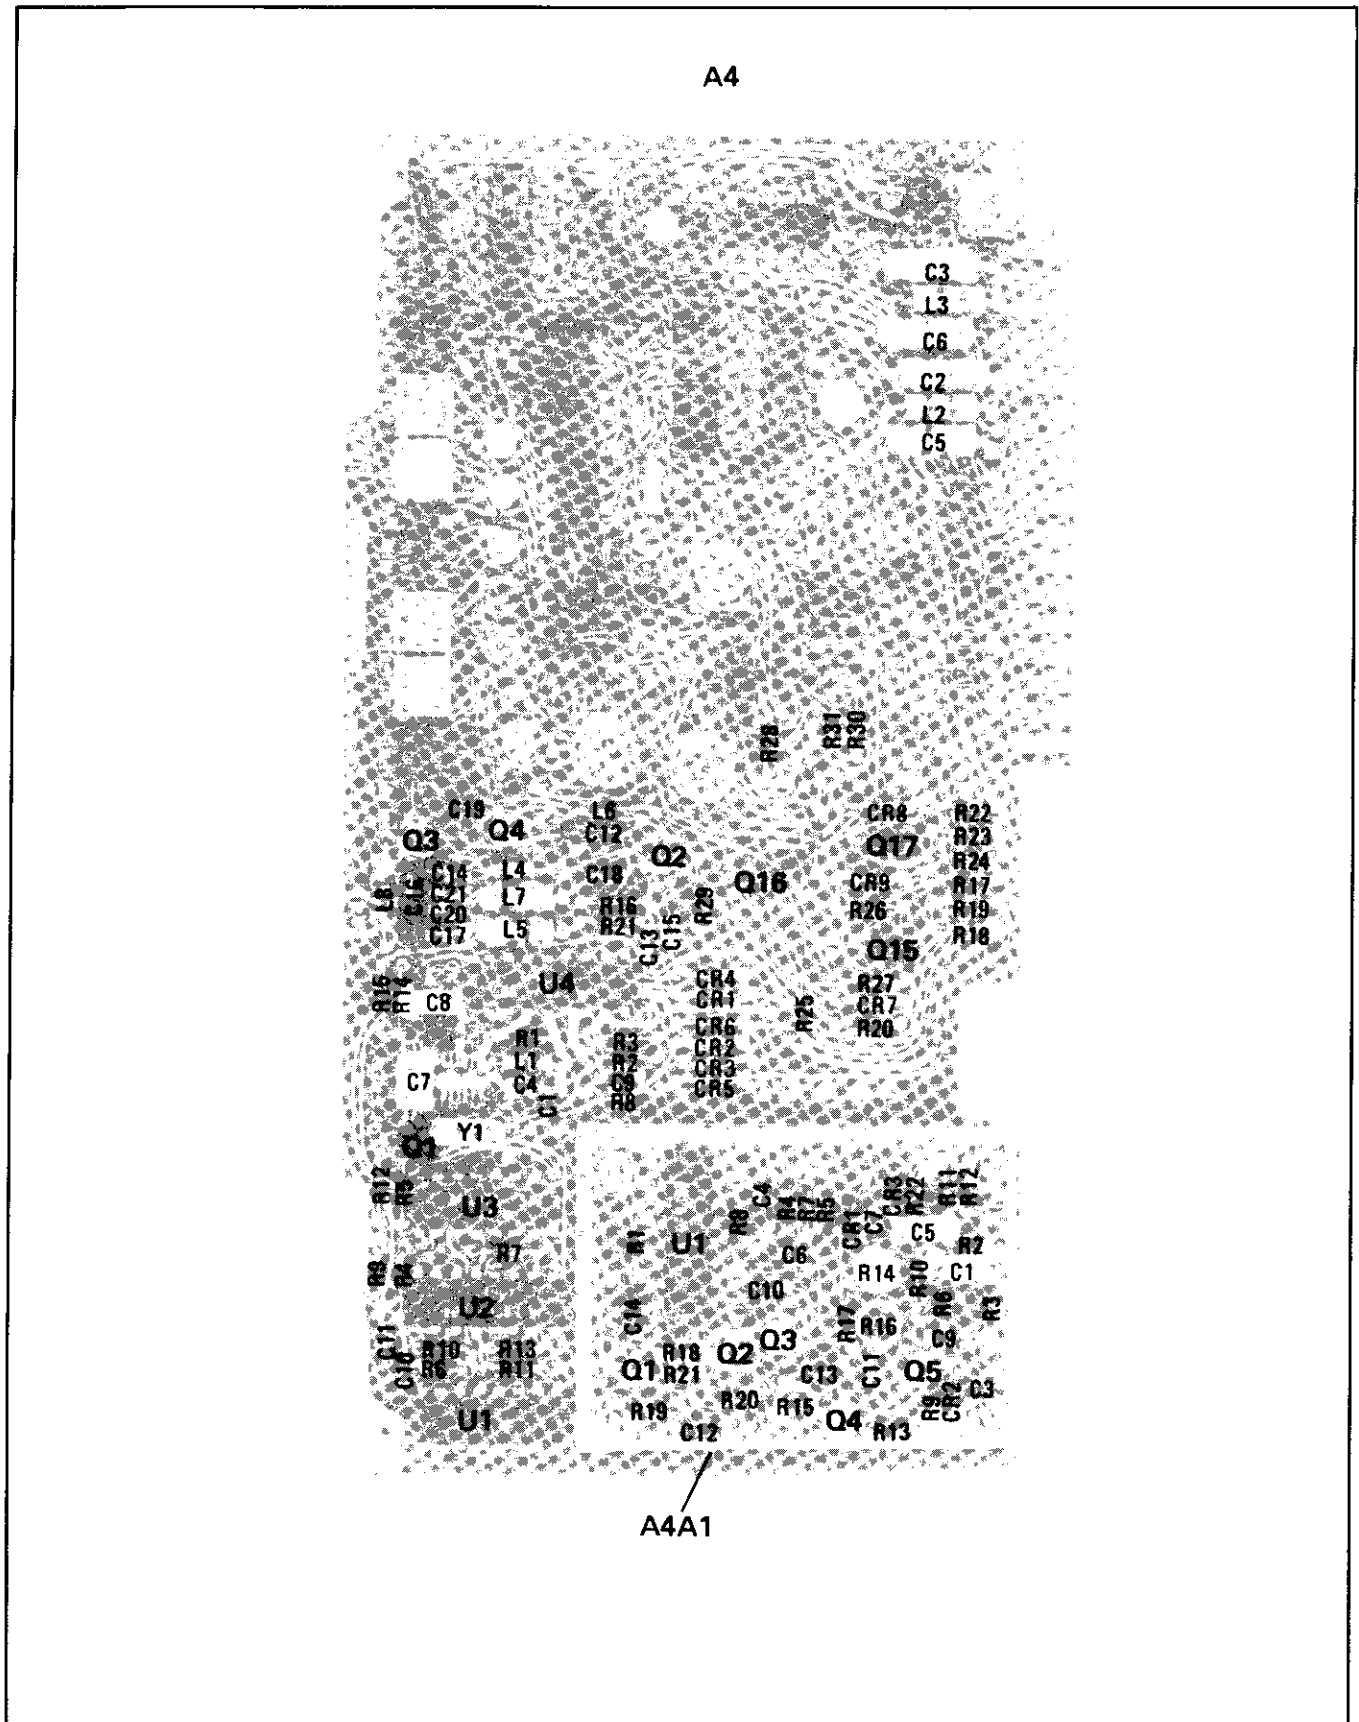

Figure 8-14. A4 and A4A1 Marker Assembly, Component Locations (ERRATA)
►Page 8-22, Figure 8-14, SERVICE SHEET 3:
Replace Figure 8-14 with Figure 8-14 (ERRATA) of this Manual Changes Supplement.